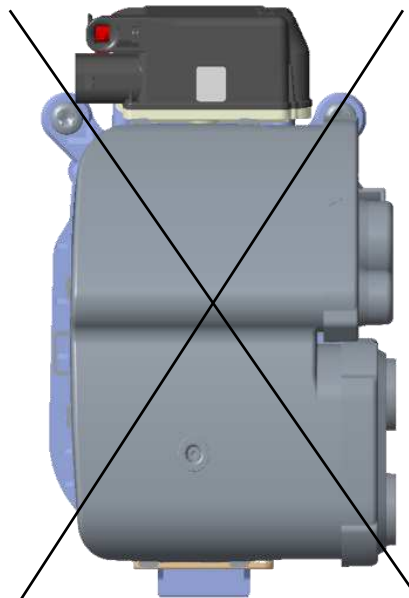

Figure 11b
- Cable direction LEFT, figure 11b